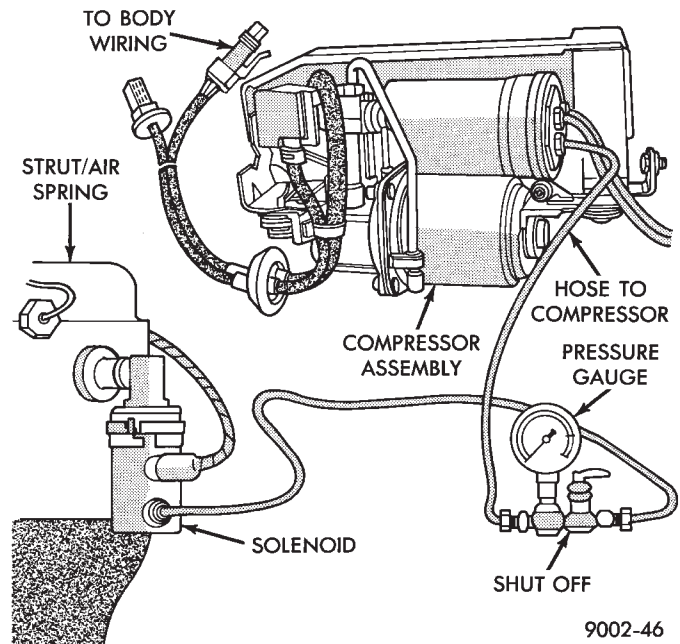

Fig. 8 Pressure Gauge Installed in System
(1) Remove the air line from the dryer and strut or spring. Attach a piece of bulk nylon tubing to one side of a Pressure Gauge (0-300 psi), and to the strut/spring solenoid (Fig. 8).
(2) Attach another piece of nylon tubing from the dryer (compressor) to other side of the pressure gauge.
(1) Disconnect the compressor motor wiring harness connector.
(2) Disconnect air line between dryer and strut or spring solenoid.
(3) Connect an air pressure gauge into the system (Fig. 8).